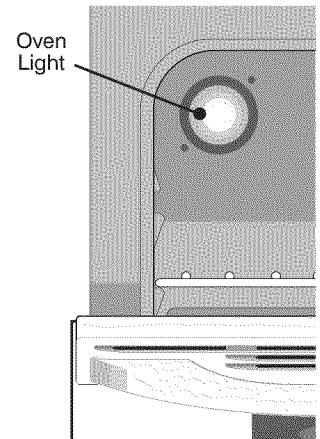

Fig. 2
2. Replace bulb with a new 40 watt appliance bulb (See Fig. 2).